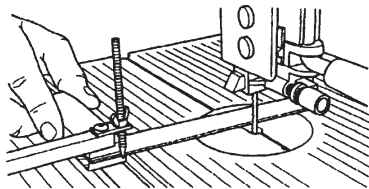

Fig. 22
11. Place a precision square (or combination square) in the table's T-slot and against a front blade tooth and the center point, as seen in Fig. 22. Only the tip of the pin should touch the square. Do not align to the shoulder or taper of the center pin.